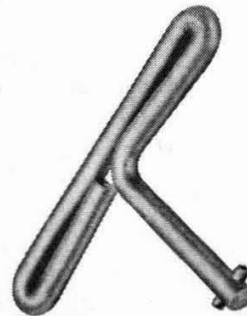

Fig. 4—719A Tool
- (1) Unlock 29A lock.
- (2) Insert 719A tool (Fig. 4) into slot, turn 1/4-turn clockwise, and release locking mechanism.